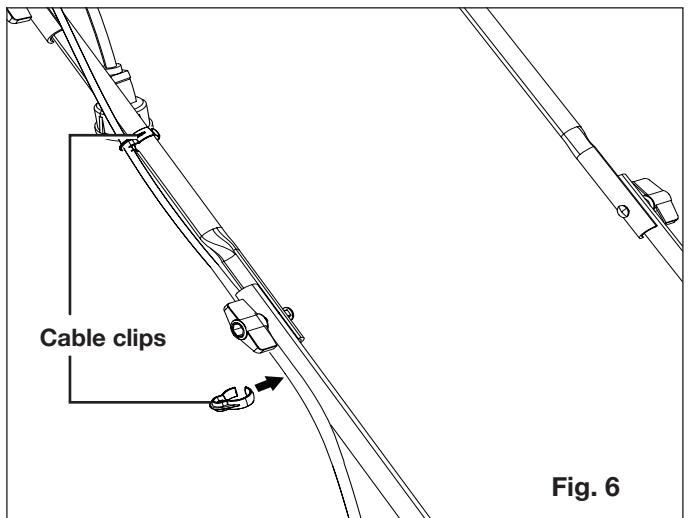

Fig. 6
5. Fix the cord with cord clips to the middle and lower handle bars (Fig. 6).